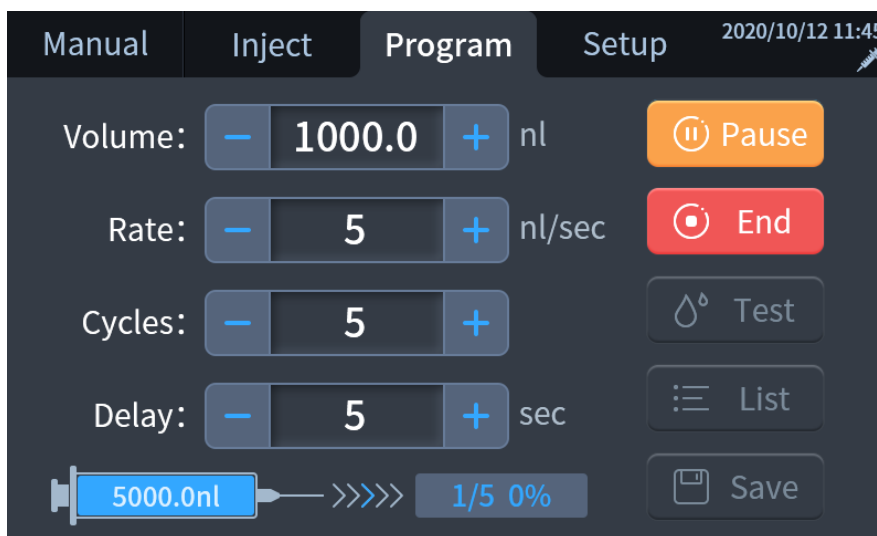

Figure 6-12
- 1) Click  to run the program to perform the injection, as shown in Figure 6-12, the injection progress will be displayed in real time.